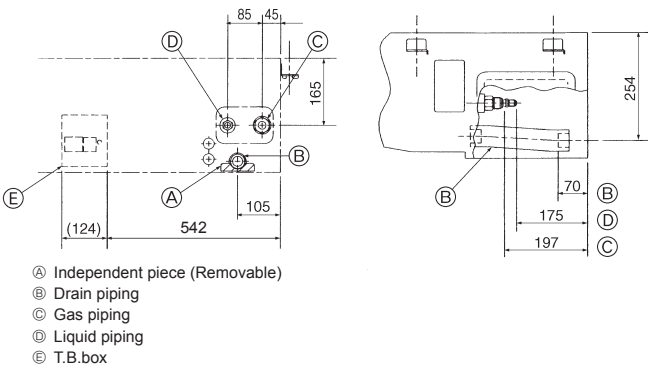

Fig. 3-2
①	Washer	4 pcs + 4 pcs (with insulation)
②	Pipe cover	1 pc Large size (For gas piping)
③	Pipe cover	1 pc Small size (For liquid piping)
④	Band	4 pcs
⑤	Drain hose	1 pc
⑥	Band	2 pcs
⑦	Drain piping cover	1 pc
⑧	Filter element	12 pcs
3.2. Preparation for installation (Fig. 3-2)